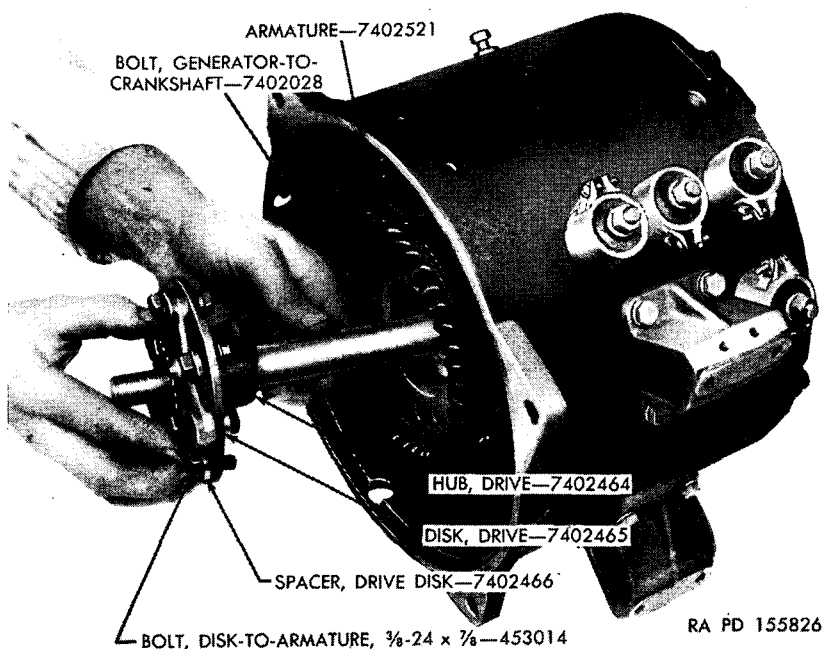

Figure 95. Installing generator drive hub-to-crankshaft bolt.
k. Insert four $\frac{3}{8}$ -24 x $\frac{7}{8}$ bolts with a spacer under head of each bolt in drive disk; then place a thin washer with dab of grease over each bolt. Insert drive hub-to-crankshaft long bolt through drive hub; then pilot long bolt, hub and disk into place at front end of generator armature (fig. 95). Start $\frac{3}{8}$ -24 x $\frac{7}{8}$ bolts easily into armature so as to assure thin washers will not become separated from bolts.